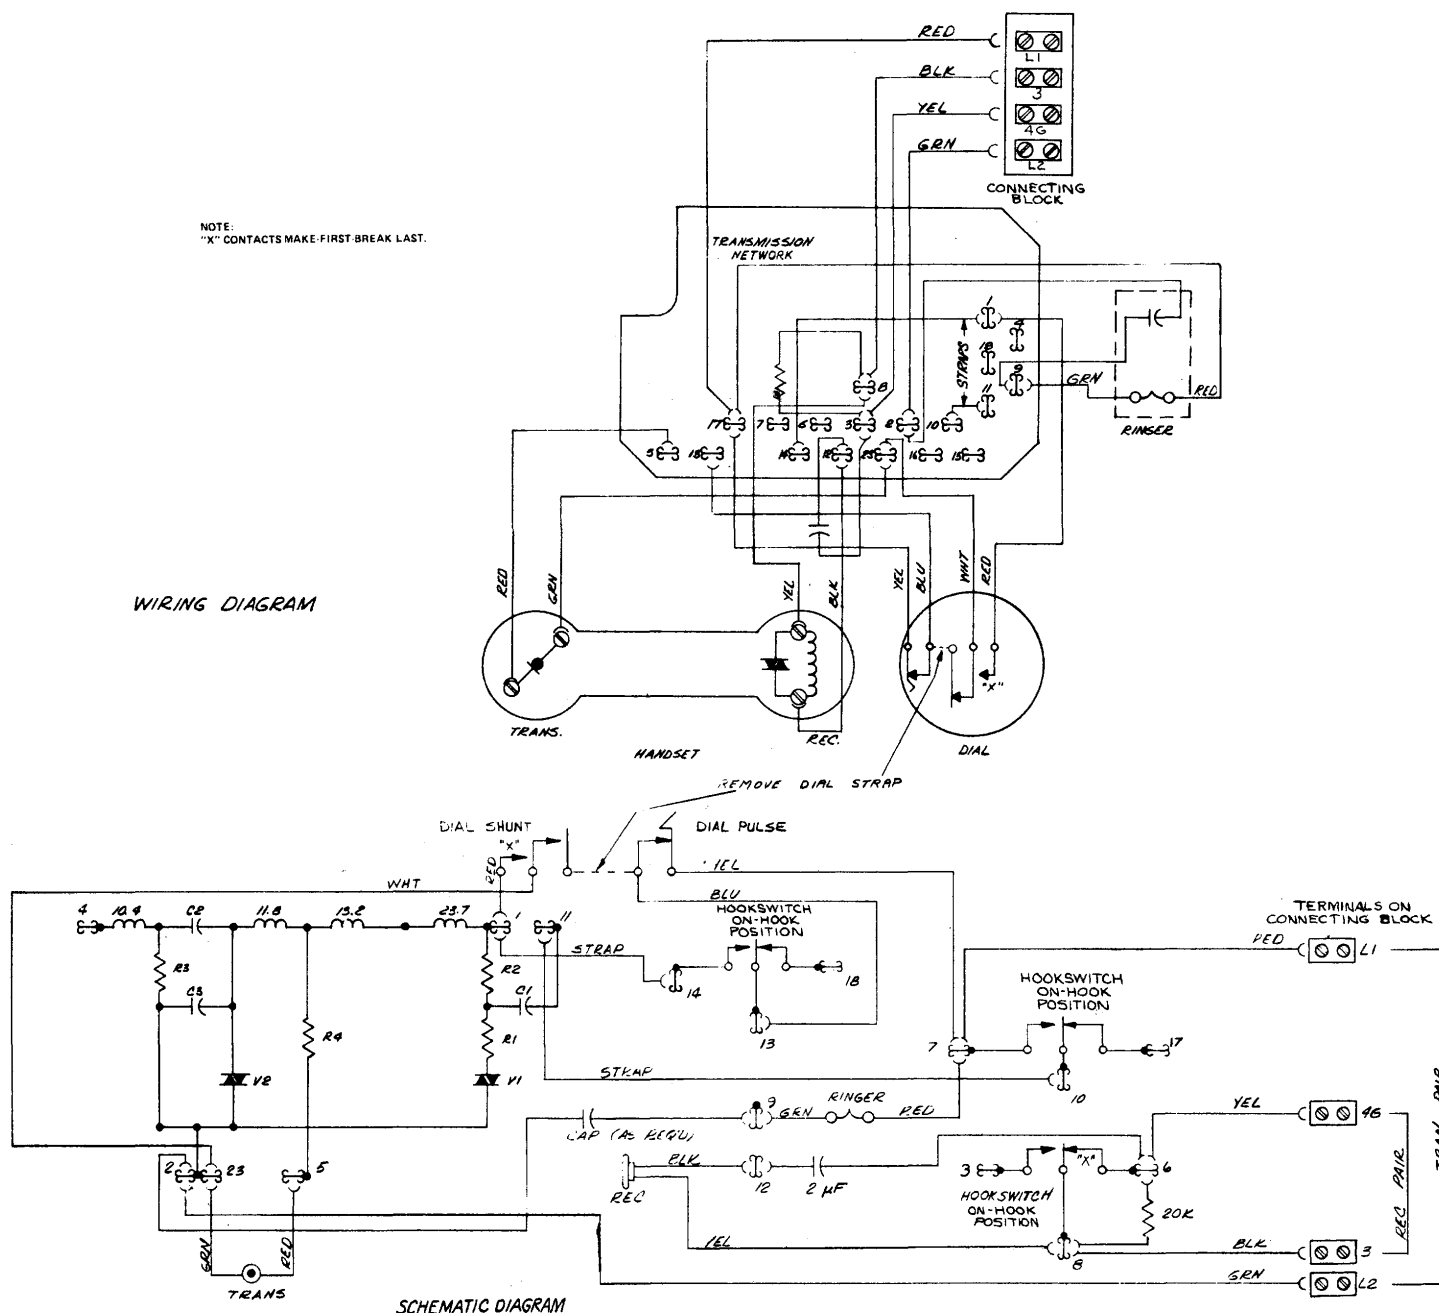

Figure 3. Typical Schematic and Wiring Diagram for Rotary Dial Telephone with Four-Wire Ring on Transmit.
3.02 Connect the telephone line cord and interior wires referring to Figure 3 through 7 as applicable.
4.06 To replace the line cord, perform the following procedure in sequential order and refer to Figures 3 through 7 as applicable:
| <p>(e) Connect the handset cord J-hook clamp in place.</p> <p>(f) Connect the handset cord leads to the proper transmission network terminals.</p> <p>(g) Replace the rotary dial assembly or TCU onto the mounting posts of the baseplate assembly. Dress the wires clear of the hookswitch actuator and spring.</p> <p>Ringer Replacement</p> <p>4.08 To replace the Type 48 ringer assembly, proceed in the following sequence (refer to Figures 3 through 7 as applicable):</p> | <p>(a) Remove the ringer mounting screw and ringer.</p> <p>(b) Detach the rotary dial assembly or TCU.</p> <p>(c) Disconnect the ringer capacitor leads if required.</p> <p>(d) Disconnect the red and green ringer leads from the transmission network terminals.</p> <p>(e) Place the new ringer over the ringer mounting hole (Figure 2) in the telephone base.</p> <p>(f) Insert and tighten the ringer-mounting screw.</p> <p>(g) Connect the ringer capacitor if required.</p> <p>(h) Connect the red and green ringer leads to the transmission network terminals.</p> <p>(i) Replace the rotary dial assembly onto the mounting posts of the baseplate assembly. Dress the wires clear of the hookswitch actuator and spring.</p> |
- (b) Disconnect the green and yellow handset leads from transmission network terminals. Reconnect them to the appropriate terminals as shown in Figures 3 through 7 as applicable.